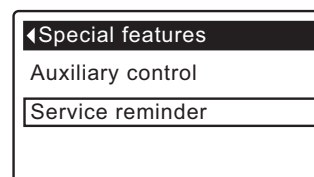

FIG. 62
5. Press the SELECT (O) button to display the Special features menu (See Figure 62).
9. Press the SELECT (O) button. The display will go back to the Special features menu (Figure 62).